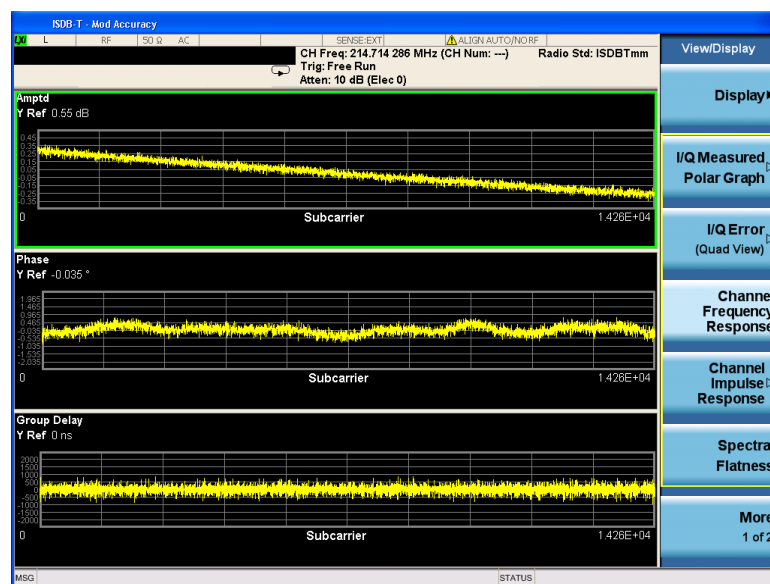

Figure 22. Channel frequency response view for ISDB-Tmm signals
View the channel frequency response results (Figure 22)	[View/Display] {Channel Frequency Response}
- **Channel frequency response view** (Figure 22): This is a three window view which includes: